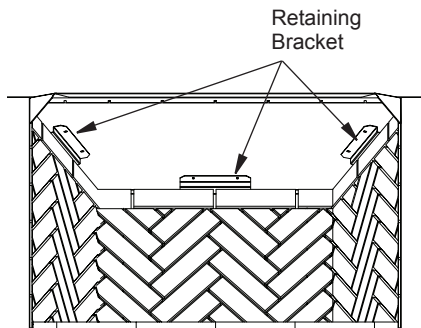

Figure 15 - Installing Side Walls
5. Secure the firebrick wall using 2 of the retainers provided. The bracket will slip underneath the metal lip on the top of the wall and screw into the inner dome of the fireplace (Figure 15).
6. Install the rear firebrick wall last. Place the wall face side down on the hearth with the bottom of the wall toward the rear of the firebox and the top toward the front of the fireplace. Tilt the wall up toward the back of the firebox. Secure with remaining retaining brackets provided (Figure 15).